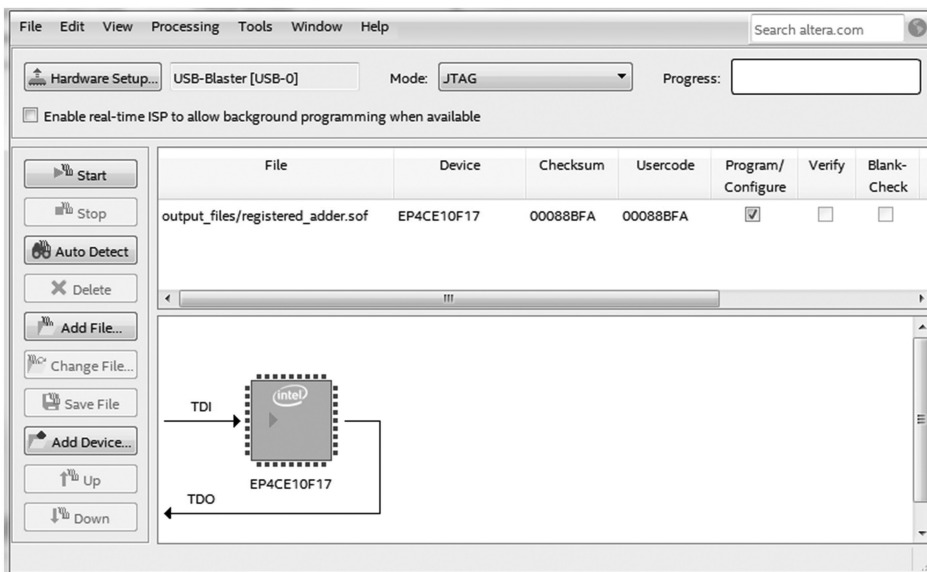

Figure B.9
b) Click the Programmer icon  or select **Tools > Programmer**, which opens the window of figure B.9.
c) Observe the following in figure B.9: The hardware driver is **USB-Blaster**; the mode is **JTAG**; the programmer file is *registered\_adder.sof* (if the file does not show up, click **Add File** and select it in the *output\_files* subdirectory); and the **Program/Configure** box is checked.